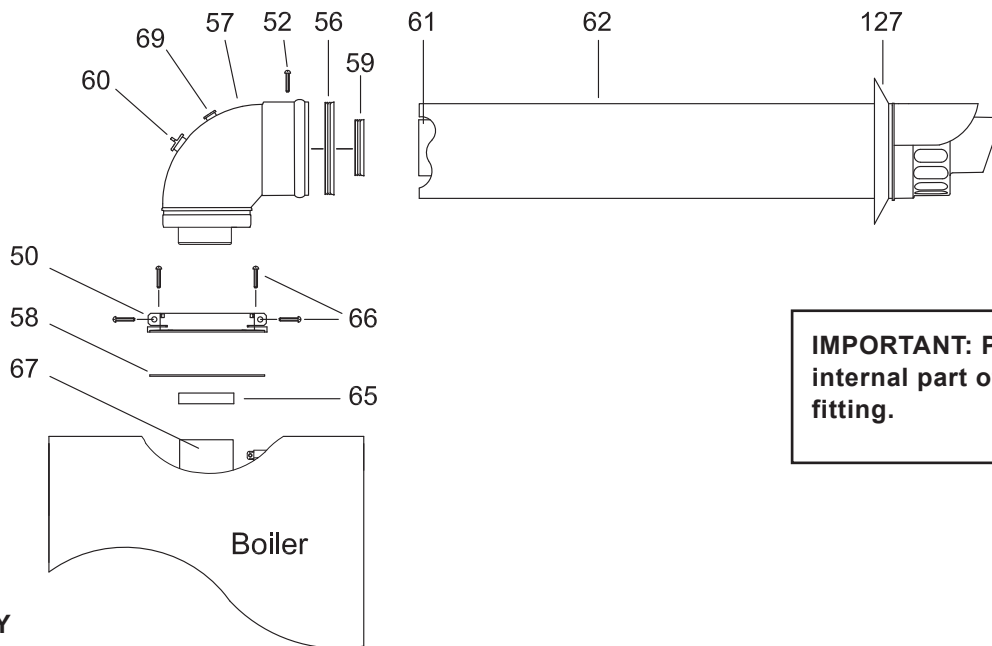

Fig.17
**Important: Make sure that the inner 60 mm diameter of the elbow header is inserted fully into the heat exchanger, and the rubber seal is correctly fitted. (Fig 17 item 65)**
**Important: Make sure that the inner 60mm diameter of the elbow header is inserted fully into the heat exchanger, and the rubber seal is correctly fitted. (Fig 17 item 65)**
If an extension must be shortened, this must be done from the straight end, and not from the widened or tapered end. To measure the pipeline properly all components must be assembled and total length measured before cutting. The straight end of the extension connects to the boiler. The flue output and air intake pipes fits into the boiler header until it stops (fig.17 - 18).